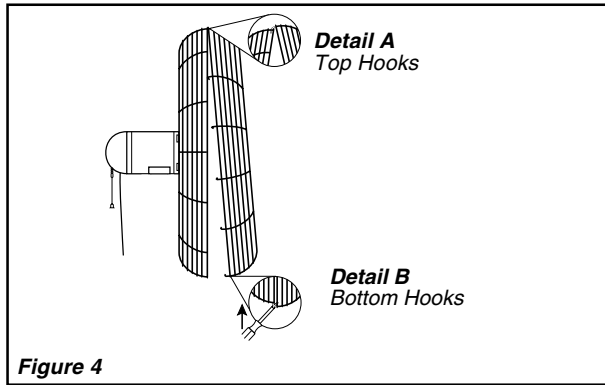

Figure 4
- Hold the Front Grill so that the name, in the center, is right side up and straight across. **Starting at the top:** Fasten Front Grill to Rear Grill by sliding the Hooked Wires on the Front Grill over the Outermost Ring on the Rear Grill. (Figure 4 / Detail A)
The bottom most Hooks will require the use of a Flathead Screwdriver to complete assembly. Stand behind Fan. Slip the Flat of the Blade between the Front and Rear Grills, next to one of the unfastened Hooks. (Figure 4 / Detail B) Pull Screwdriver handle upwards towards the Rear Grill. Slip the Front Grill Hook over the Rear Grill Outer Ring with a push. Repeat procedure with remaining Hooks. Caution: Be careful not to bend any wires on Grills or pinch your hands during assembly.